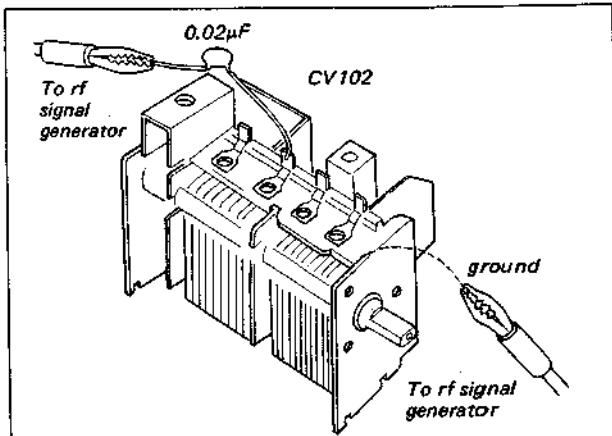

Fig. 3-4. 10.7MHz signal injection
2. Connect the output cable of the generator across CV102 on the fm (a-m) front-end/i-f amp/MPX board through a  $0.02\mu\text{F}$  coupling capacitor as shown in Fig. 3-4.